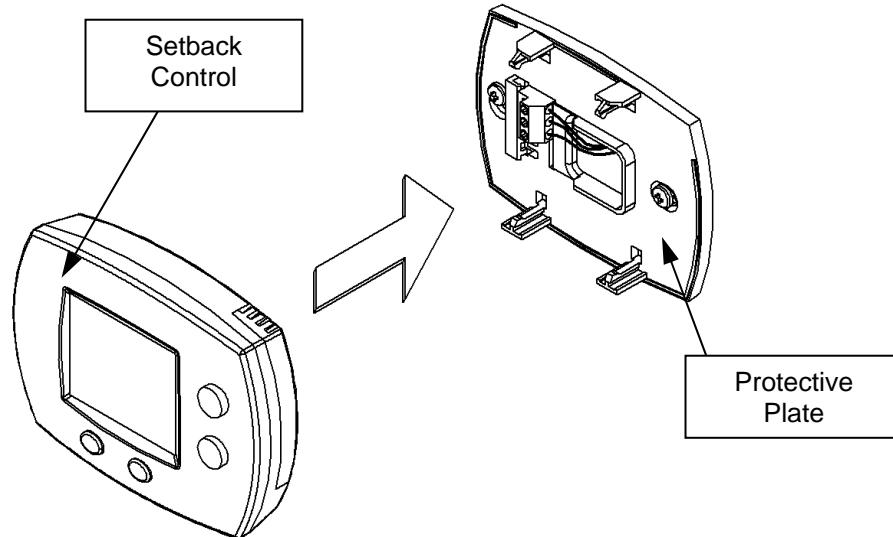

Figure 26
Step 21: Snap the Setback Control into the Protective Plate. Align the Setback Control to the Protective Plate, and press until it is fully seated. This is shown in Figure 26.